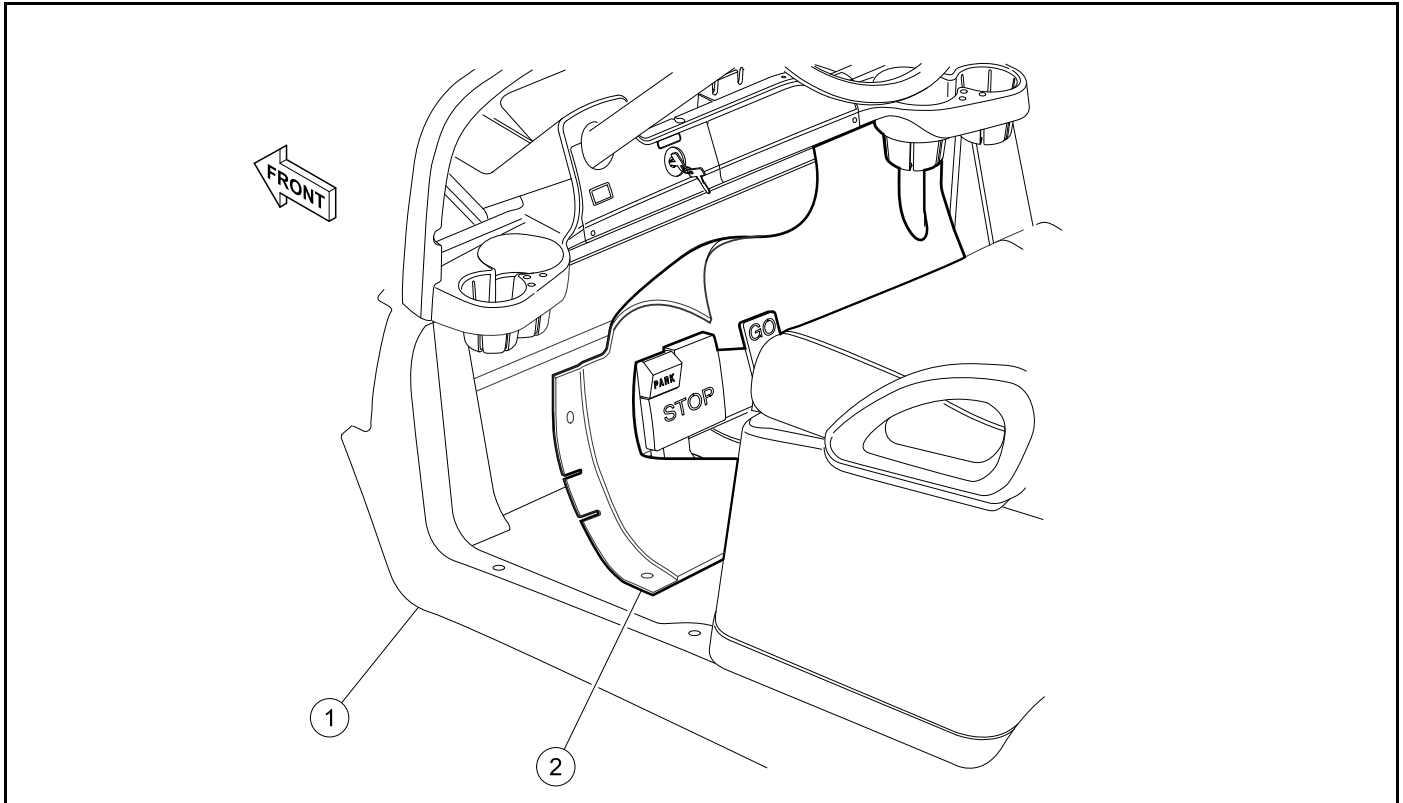

Figure 5-5
2. Remove the floor mat retainer (1) (**Figure 5-5**).